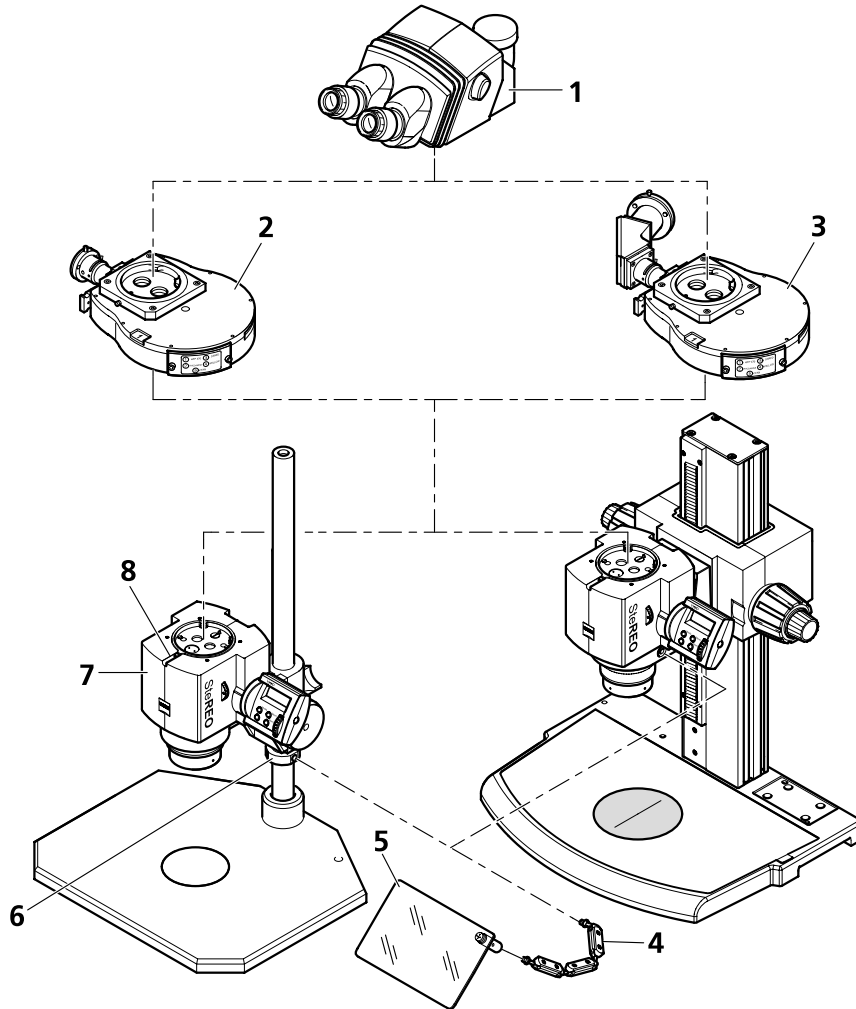

Fig. 22 Installation of PentaFluar S/X-Cite or S/HBO
- Loosen clamp screw (Fig. 22/8) using an SW 3 Allen key and remove the tube (Fig. 22/1). If attached, remove the intermediate tube in the same way.
- Depending on the chosen equipment, attach the PentaFluar S/X-Cite (Fig. 22/2) or the PentaFluar S/HBO (Fig. 22/3) vertical illuminator to the microscope body (Fig. 22/7), align it (the connector for the illumination equipment should point to the left) and tighten the clamp screw (Fig. 22/8).
- Using the plugged through SW 3 ball-headed screwdriver, screw the support (Fig. 22/4) of the dazzle protector into the M8 tapped hole on the carrier of the microscope body.
- At the other side of the support (Fig. 22/4), screw on the dazzle protector (Fig. 22/5) and tighten it with the SW 3 ball-headed screwdriver plugged through.
When using the dazzle protector on column stands, before installing the Stemi mount, first slip the clamping ring (Fig. 22/6) for the dazzle protector over the column and fix it by means of its clamp screw. The clamping ring has two M8 tapped holes, into which you may optionally screw in the support of the dazzle protector.